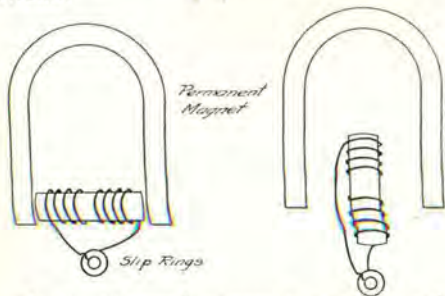

Fig. 1. Two-pole magneto generator, with armature parallel, and at right angles to field poles
**A**LTERNATING current motors and generators are simpler and easier to construct than the direct current machines previously discussed. The simplest kind of a generator is the two-pole machine, with a rotor, called the armature, composed of a straight iron core, with a shaft through its center, which is supported on bearings. Two windings are placed on this core, one on either end, as shown in Fig. 1, and their ends connected to "slip rings," which lead the current generated to the outside circuit.